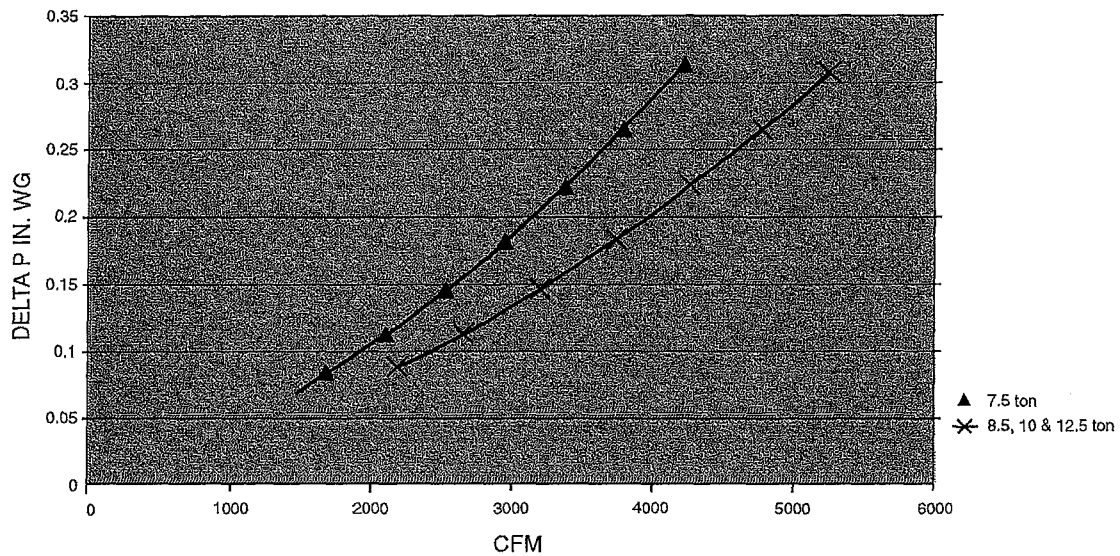

Fig. 44 — Humidi-MiZer™ Adaptive Dehumidification System Static Pressure Drop (in. wg)
Step 9 — Adjust Evaporator-Fan Speed — Adjust evaporator-fan speed to meet jobsite conditions. Tables 7A and 7B show fan rpm at motor pulley settings for standard and alternate motors. See Table 8 and Fig. 44 for accessory and option static pressure drops. See Tables 9A and 9B for evaporator fan motor performance. Refer to Tables 10-23 to determine fan speed settings. Fan motor pulleys are factory set for speed shown in Table 1.